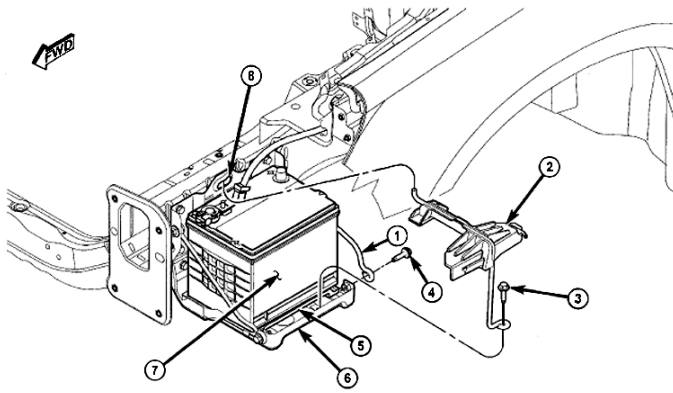

Fig. 2 Battery removal
6. Remove lower battery tray support bolt (4). Loosen upper support bolt and allow support (1) to swing down out of way, **Fig. 2**.
7. Remove battery hold down bolt (3), **Fig. 2**.
8. Rotate battery hold down rod rearward and disengage it from mounting slot in battery tray (8). Remove battery hold down (2), **Fig. 2**.
5. Install battery hold down bolt (3), **Fig. 2**. **Torque** hold down bolt to 142 inch lbs.
6. Position rear battery tray support onto battery tray (6), and install lower battery tray support bolt (4), **Fig. 2**. **Torque** both rear battery tray support bolts to 142 inch lbs.